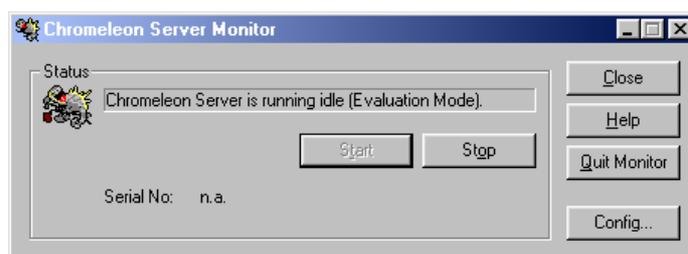

FIGURE 2-13 The Server Monitor - Evaluation Mode
- c) Click on the Start button to start the CHROMELEON Server. During the software installation the server will run in Evaluation Mode (FIGURE 2-13).